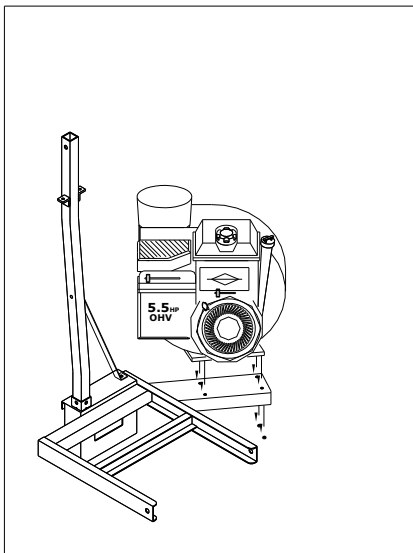

Fig. 4
4. Mount air turbine assembly onto frame (1) with four 5/16" x 1 1/4" hexbolts, 5/16" flatwashers and 5/16" locknuts. **(Fig. 4)**